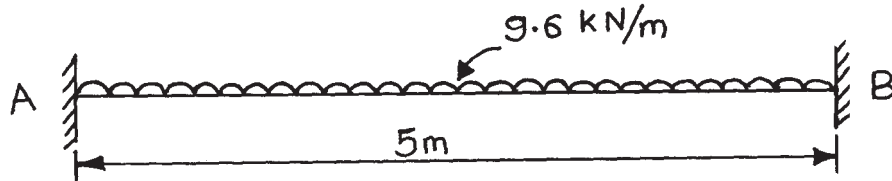

Fig. No. 5
- c) Calculate fixed end moments and draw BMD for a beam as shown in Fig. No. 5. Use first principle method.